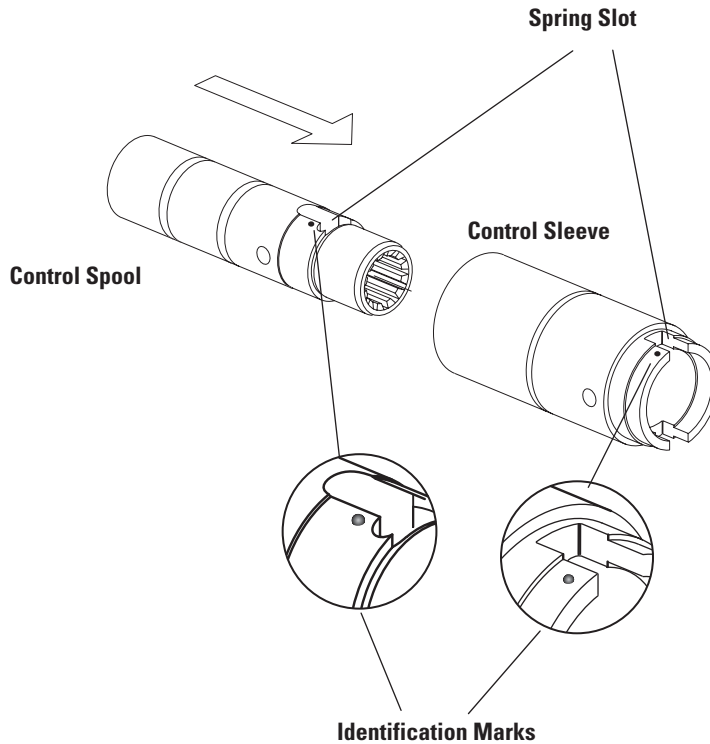

Figure 21
- Assemble spool and sleeve carefully so that spring slots line up at the same end. Rotate spool while sliding parts together. Test for free rotation. Spool should rotate smoothly in sleeve with fingertip force applied at splined end. Align spring slots and identification marks (Figure 21) in spool and sleeve and stand parts on end of bench.